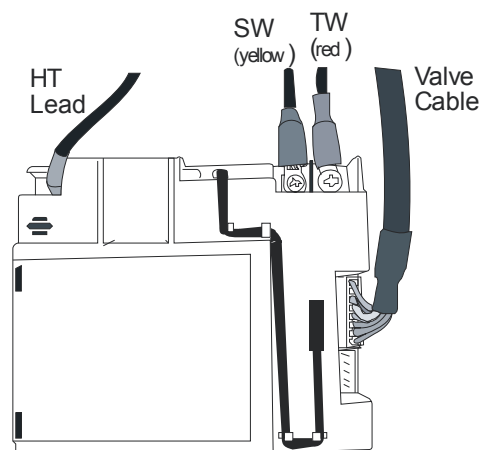

Figure 75
2. Gently pull out the HT lead and the valve cable from the receiver (see **Figure 75**).